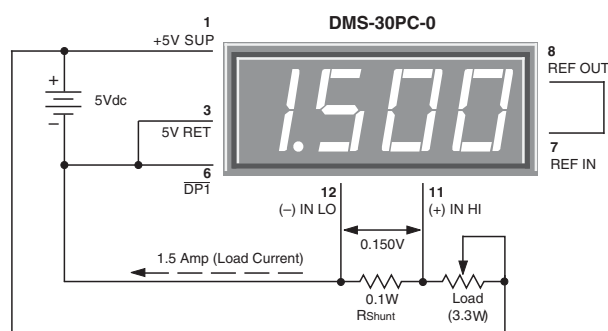

Figure 9. Basic DC Ammeter Circuit
7. **Digital Ammeter:** Digital ammeters are finding ever-increasing usage because analog-style ammeters (moving-vane types) now cost roughly the same as their digital counterparts. Additionally, analog ammeters are not nearly as rugged as modern digital panel voltmeters. Figure 9 illustrates a typical ammeter application. The circuit uses a $\pm 200\text{mV}$ input meter